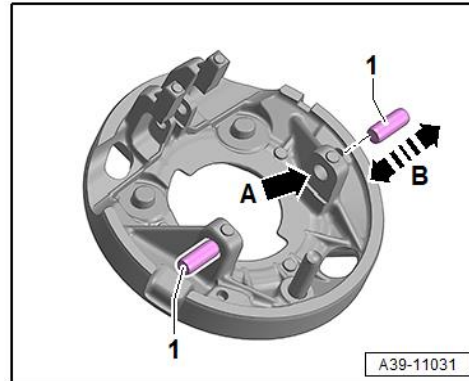

Figure 13. Pin checking.
10. Insert the pins (Figure 13, position 1) into the holes of the gear carrier.